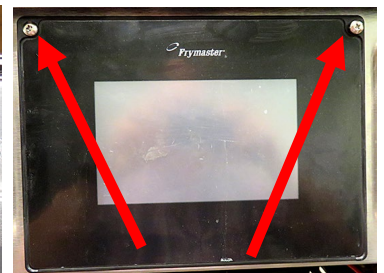

Figure 2
3. Remove the two Phillips head screws from the upper left and right corners of the controller (see Figure 2).